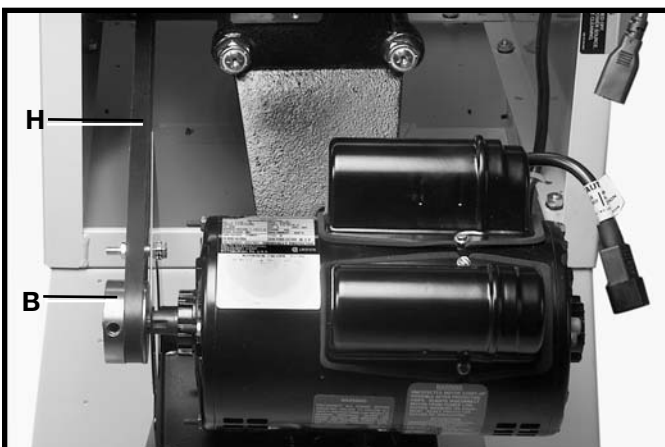

Fig. 20
7. Lift up on the motor and assemble the drive belt (H) Fig. 20, to the arbor pulley and motor pulley (B). The weight of the motor will provide the correct belt tension.